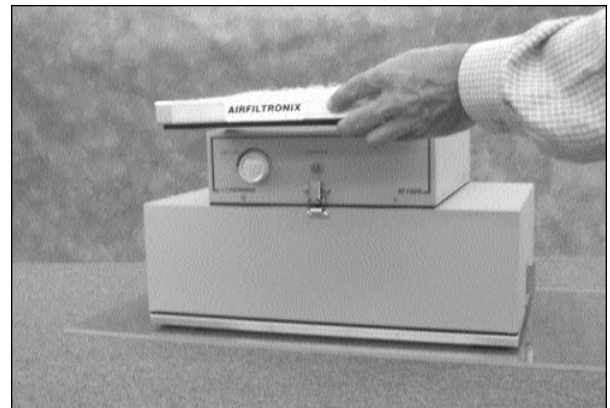

Figure 10
9. If not already installed, unpack the PF-1R, 4 stage dacron prefilter and slide into position on top of the blower unit in the tracks provided (with the gasket side down) (figure 10).